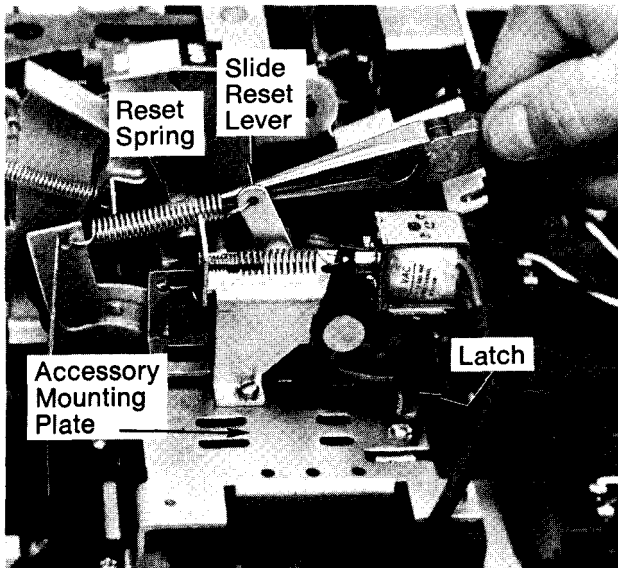

Figure 34.
- Remove the slide reset lever spring from the mounting plate as shown in Fig. 34. Care should be exercised not to nick or damage the spring in any way, since it will be needed for reassembly.
7. Replace slide reset lever spring (Fig. 34).